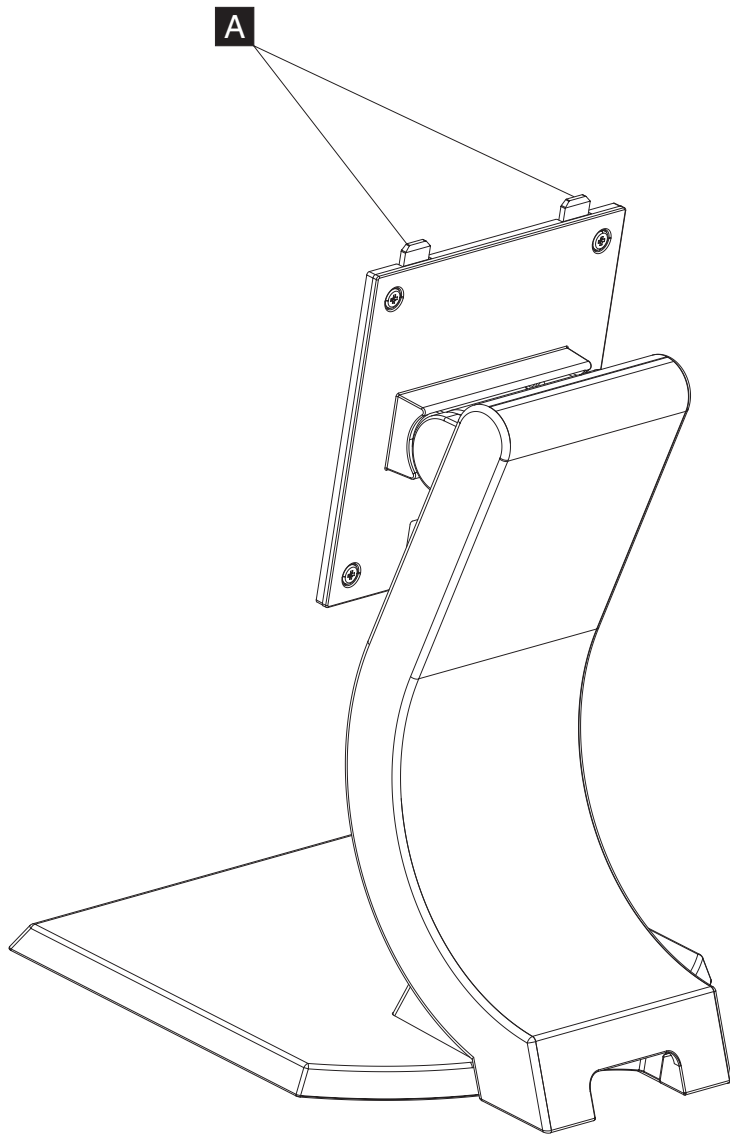

Figure 11. Mounting the free-standing pedestal
2. Place the 4820 display on the free-standing pedestal. Ensure that the metal tabs **A** on Figure 11 on page 15 slide into the appropriate slots on the back of the 4820 display.